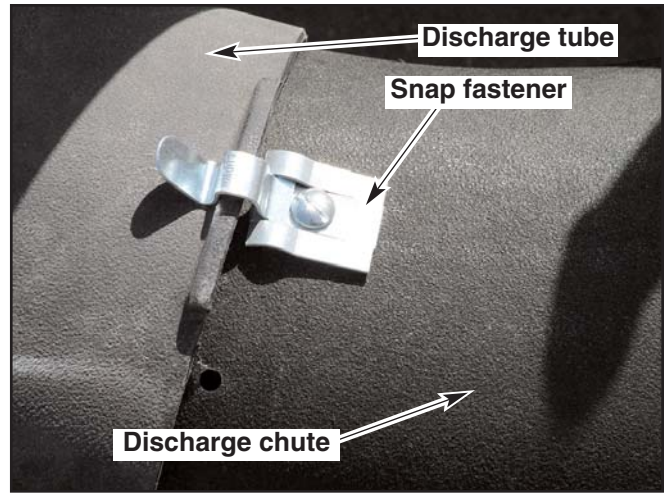

Figure 6
6. Attach the snap fasteners (Ref. #3) to the discharge chute (Ref. #1) using the hardware as shown in Fig. 6
7. Attach the discharge tube (Ref. #7) to the discharge chute and inlet tube on the catcher lid per Fig. 6, 7 & 12. Lock in place using the snap fasteners.